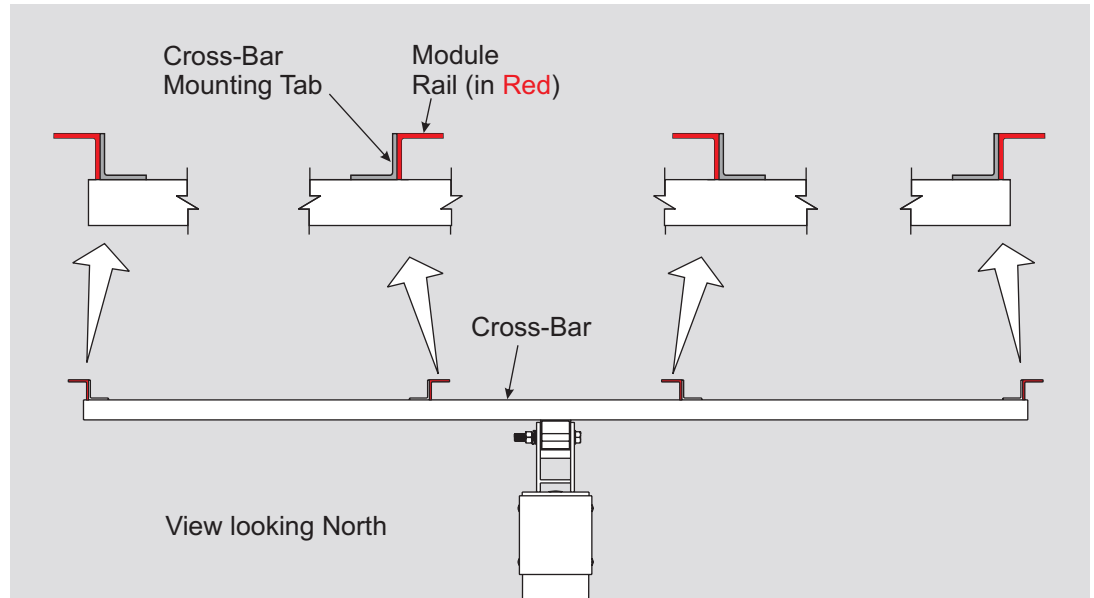
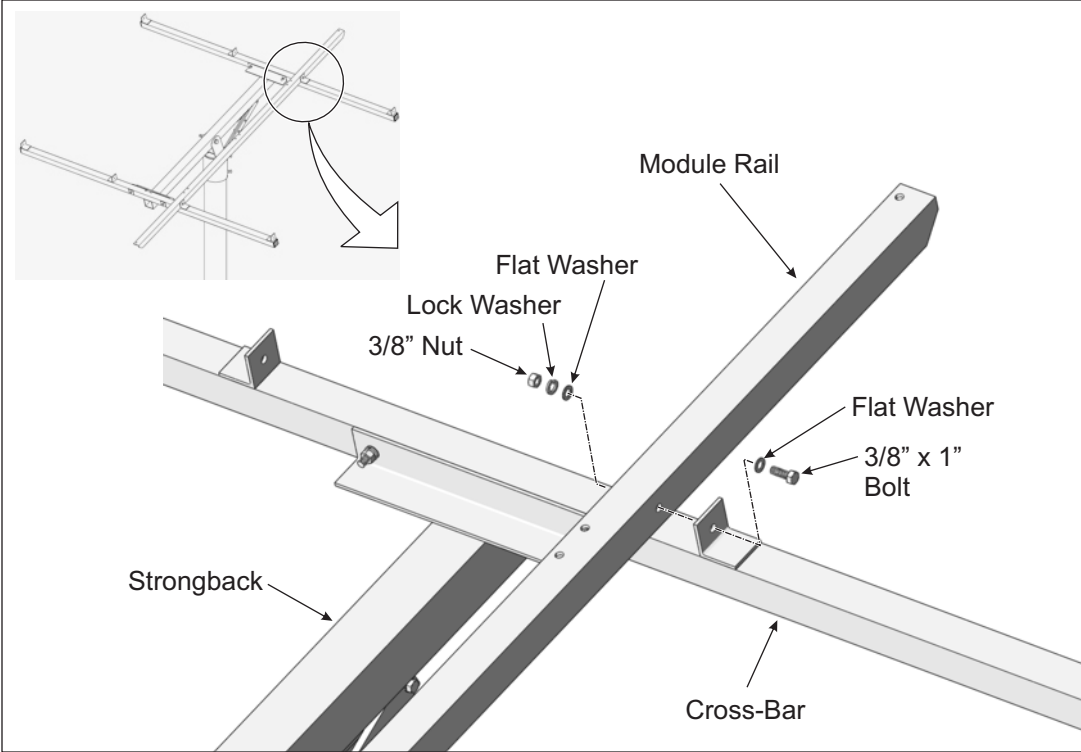
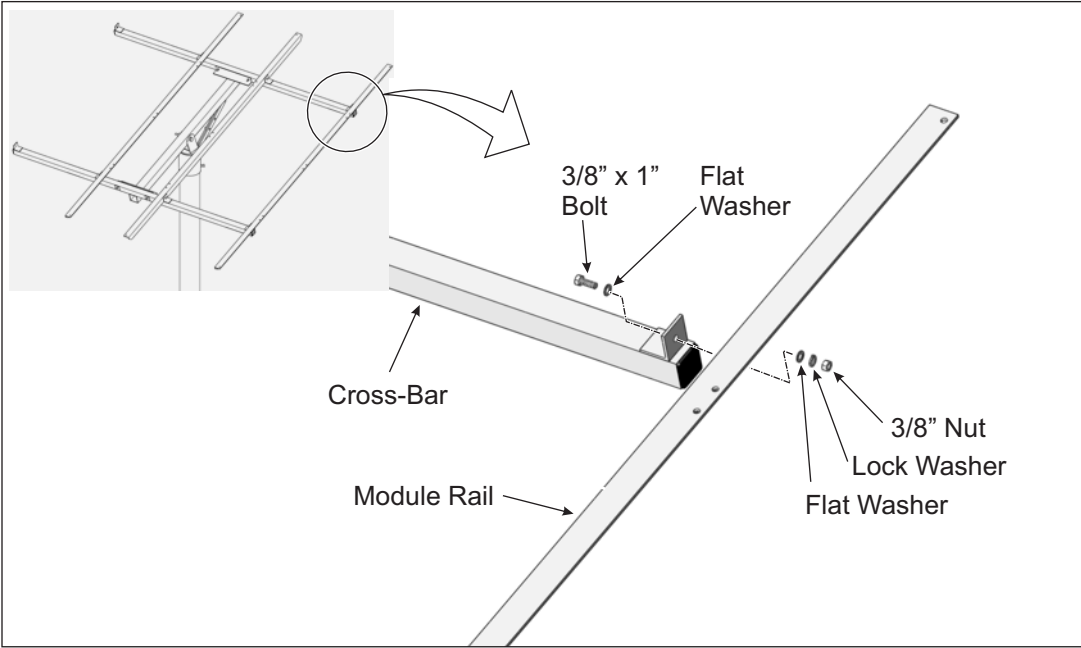

Figure 4-1: Orientation of Module Rails to Cross-Bars
Figure 4-2: Installing Inboard Module Rails to Cross-Bars
Figure 4-3: Installing Outboard Module Rails to Cross-Bars
Module Rails are installed differently depending on whether they are mounted inboard or on the outer edges of the Cross-Bars. (See Figure 4-1)
- A. Referring to Figure 4-1 for orientation of the inboard Module Rails, position the first section of Module Rail. Align the Module Rail mounting holes with the holes of the Cross-Bar mounting tabs and secure with 3/8" x 1" bolts and hardware. Each Module Rail has two attachment points. Finger-tighten for now. (See also Figure 4-2)
- B. Now install the opposite inboard Module Rail following the above procedure. Refer to Figure 4-1 as needed for orientation of the Module Rail.
- A. Referring to Figure 4-1 for orientation of the outboard Module Rails, position the first Module Rail. Align the Module Rail mounting holes with the holes of the Cross-Bar mounting tabs and secure with 3/8" x 1" bolts and hardware; each Module Rail has two attachment points. Finger-tighten for now. (See also Figure 4-3)
- B. Now install the opposite outboard Module Rail following the above procedure. Refer to Figure 4-1 as needed for orientation of the Module Rail.